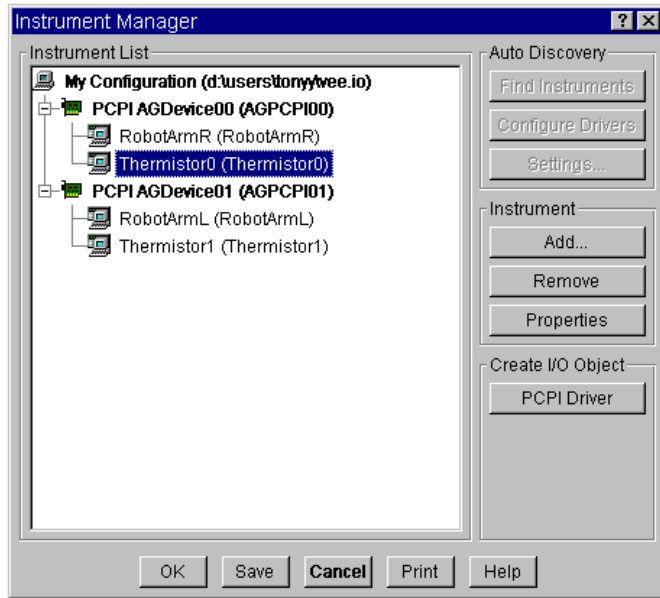

Figure 3-23. ODAS Driver Entries in Instrument Manager
1. Select `I/O ⇒ Instrument Manager...` Select `Find Instruments`. The `Instrument Manager` displays entries similar to those shown in Figure 3-23.